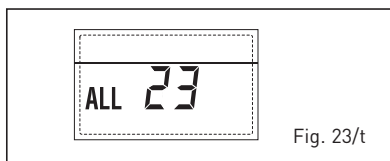

Fig. 23/t
- ERROR SOLAR APPLICATION COMPATIBILITY "ALL 27" (fig. 23/21)